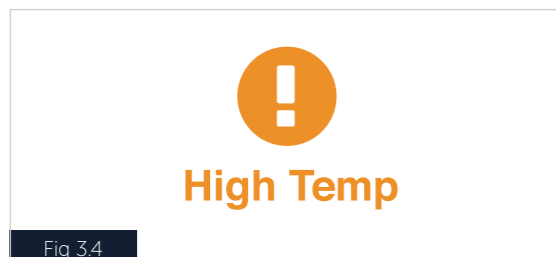

Fig 3.4
- If the temperature is observed to be above $3^{\circ}\text{C}/37^{\circ}\text{F}$ the Status Symbols will show the exclamation symbol ! (Fig 3.4) and the text will read 'High Temp'.